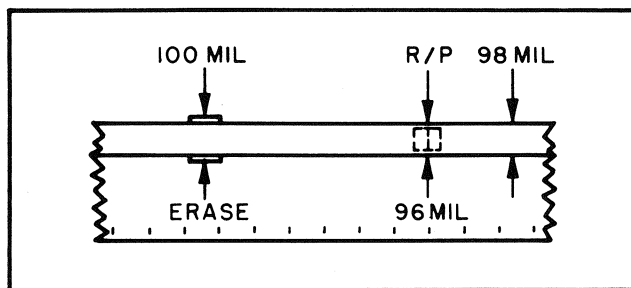
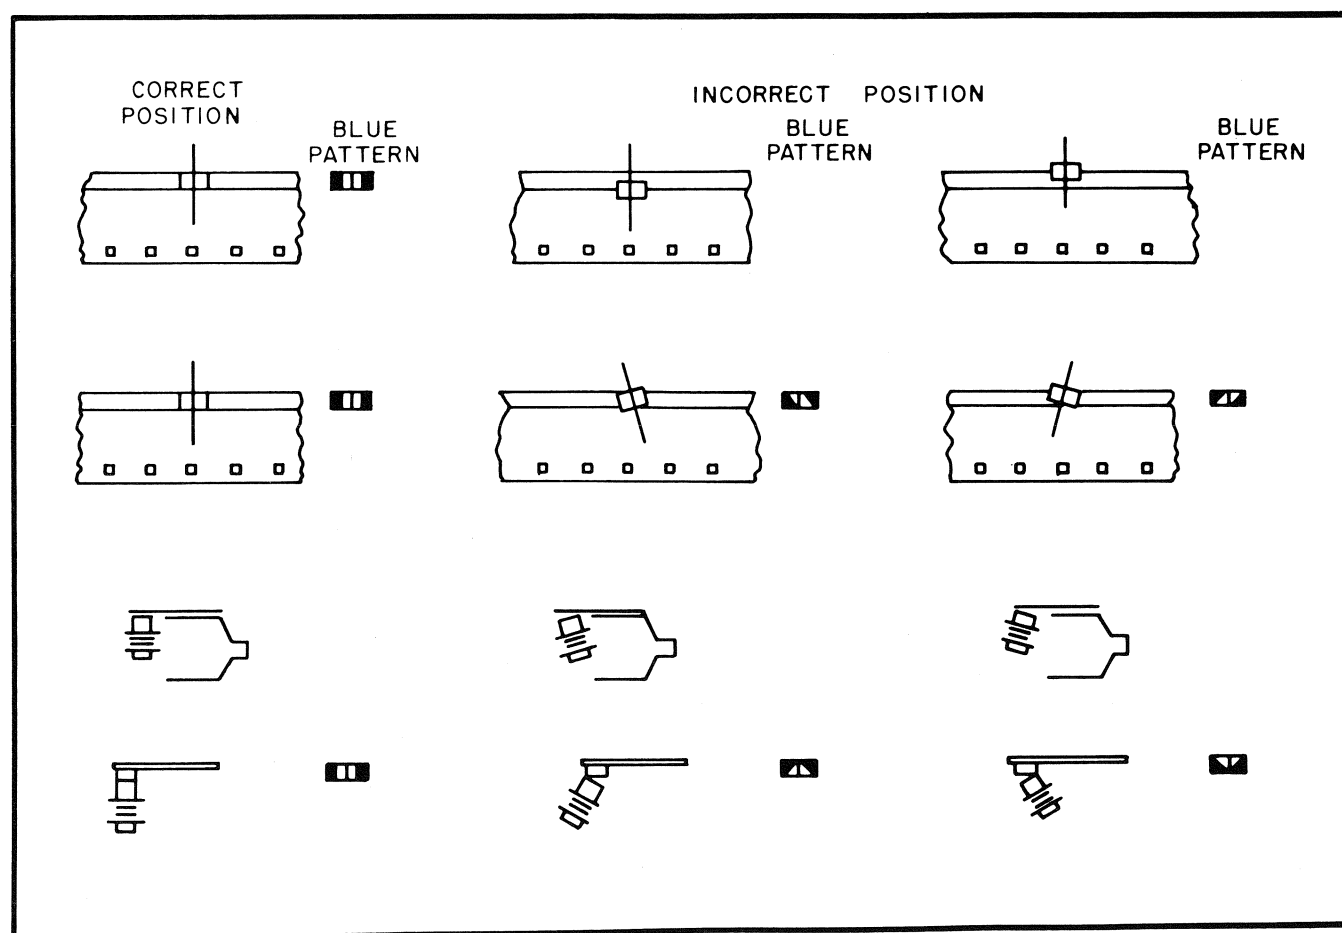

Figure Z-4. Lateral Location of Heads
Figure Z-5. Head Orientation
respect to the track must be as shown in figure Z-4. The orientation of the pole pieces must be shown in "correct" views as shown in figure Z-5.
e. Carefully remove film from sound head and examine the pattern left by the prussian blue. The correct pattern will be a rectangle centered over the headgap as shown in "correct" column of figure Z-5.
f. If blue pattern is not as shown in "correct" position as shown in figure Z-5, adjust as follows:
k. Start projector and note output meter reading. When erased position of previous recording is reached, output should drop at least 27 db. If level drops less than 27 db, erase head is not properly positioned. (See figure Z-4.) Shift head from side to side as required and recheck erase-down. When head position is changed, head pressure should be rechecked, as per paragraph 75b.